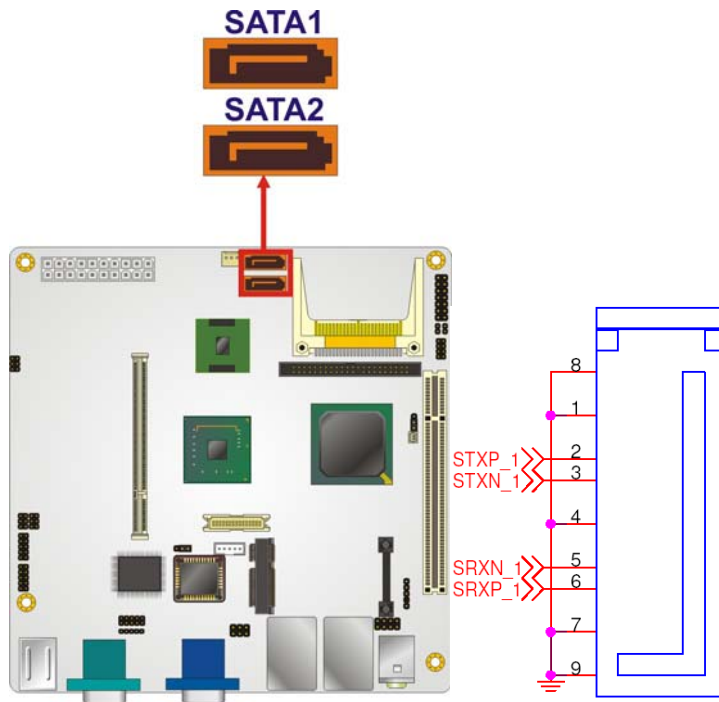

Figure 4-13: SATA Drive Connector Locations
- CN Location:** See **Figure 4-13**